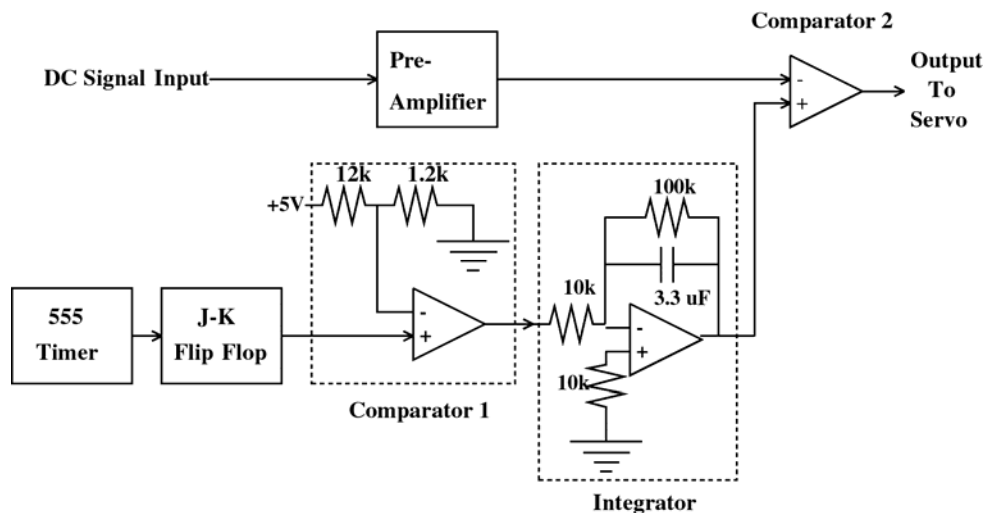
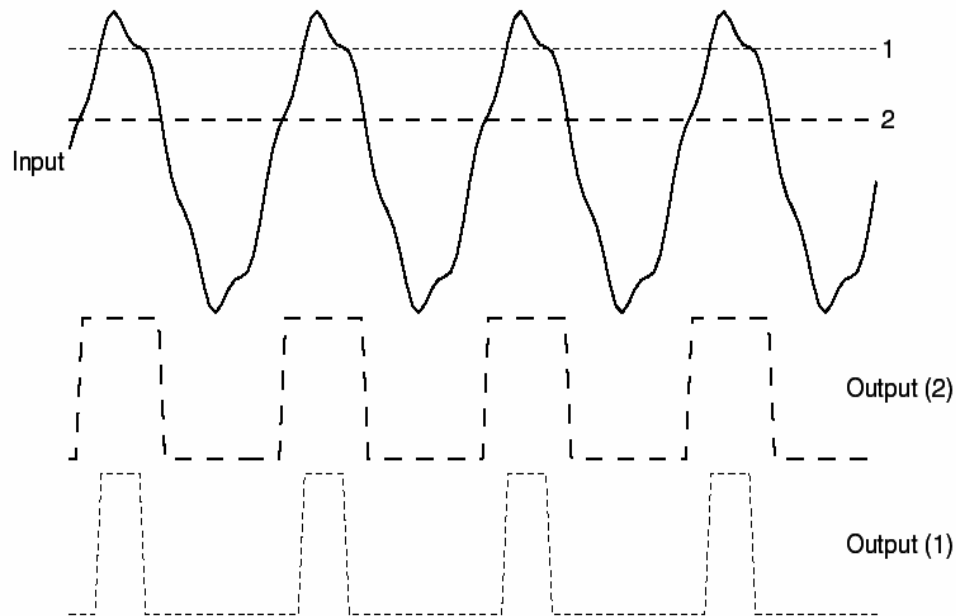
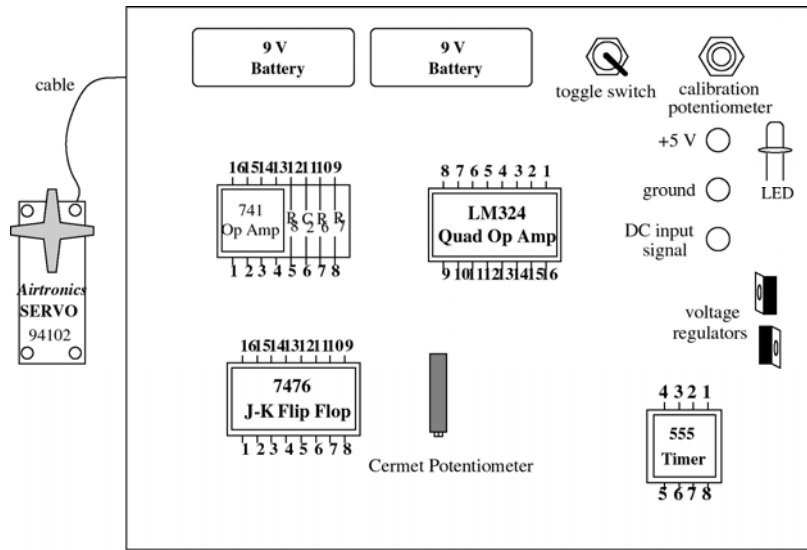
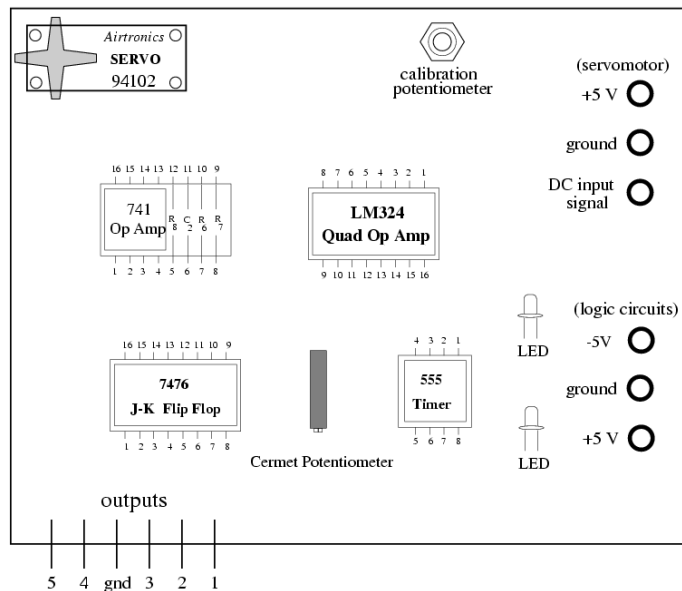

Figure 3: Servomotor Controller Circuit Block Diagram
Figure 5: Comparator output
Figure 6: Servo Circuit Layout (9V battery version)
Figure 7: Servo Circuit Layout (all external DC power supply version)
The servo controller circuit consists of several op-amps and Transistor-Transistor Logic (TTL) components. Its purpose is to convert a DC voltage into a rectangular pulse train whose **duty cycle** is determined by the DC level. The servo responds to variations in the **duty cycle** of a 50 Hz rectangular pulse train. The controller circuit is designed to produce a 50 Hz rectangular pulse train with a **duty cycle** determined by the DC voltage level at its input. The path of the signal through the circuit is shown in the block diagram of Figure 3. A summary of each component is provided in the following section.
The output of the J-K flip flop is a voltage square wave with **Levels** of 0V and 5V. This square wave is the input to the comparator. The comparator circuit utilizes one of the 741 op-amps on the LM324 Quad Op-Amp chip shown in Figure 6,7. The purpose of the comparator in this circuit is to shift the voltage **Levels** of the square wave produced by the flip flop to the power supply **Levels** ($+V_{cc} = 5V, -V_{cc} = -5V$) of the op-amp. This change in amplitude creates a square wave signal that is symmetric around ground (ideally) but does not affect the shape or frequency of the square wave input signal. Hence, the output of the comparator is also a square wave, but its voltage **Levels** have been shifted from 0V and 5V to -5V and +5V.
The final stage of the servo controller circuit is a comparator (Comparator 2 in Figure 3). The integrator output is compared to the (amplified) DC signal. This comparator circuit utilizes the second 741 op-amp on the LM324 Quad Op-Amp chip shown in Figure 6,7. Whenever the integrator signal amplitude is greater than the DC input, the output of the comparator is high (+Vcc). Whenever it is less than the DC input, the output of the comparator is low (0 V). This operation is shown for an arbitrary signal in Figure 5. Consider the time-varying periodic signal as **compared** to the DC threshold level. When the threshold is set to level 1, the time-varying signal exceeds the threshold only for a relatively short duration near its peak. During this time, the output signal from the comparator is a rectangular pulse train with a **duty cycle** as shown in Figure 5. If the threshold is reduced to level 2, the time-varying signal exceeds the threshold for a longer duration and the **duty cycle** is increased.
There are two different versions of the servo controller board. You must first determine which servo controller board you have at your lab station. The main difference between the two versions is the DC power supply for the op-amps and TTL logic chips. The controller shown in Figure 6 shows the controller which utilizes two 9V batteries and Figure 7 shows the controller which utilizes an external split DC source for its on-board logic. Depending on which board you have at your lab station, follow the procedure below. Both controller boards will require the use of the Agilent E3631A Triple Output DC power supply in addition to the Agilent E3611A power supply that you have used in previous experiments.
3. From the above two expressions derive a relationship between the DC input voltage and the duty-cycle of the signal output from the comparator. Is this relationship linear? Explain why the input signal to the comparator in Figure 5 would not give a linear relationship between DC input and the output signal's duty-cycle. Explain why a square wave input (instead of a triangle wave) to the comparator would not give an output signal with variable duty-cycle.